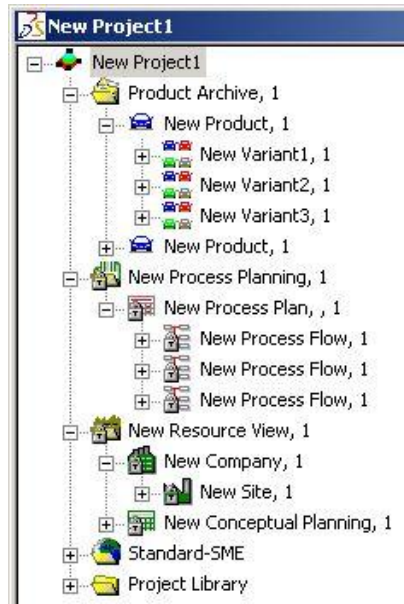

Figure 242: Plan Areas in the Main Project Marked as Locked
- 10) The plan sections unlocked for the supplier project are marked as locked in the main project. (*Please refer to the Figure 242*).